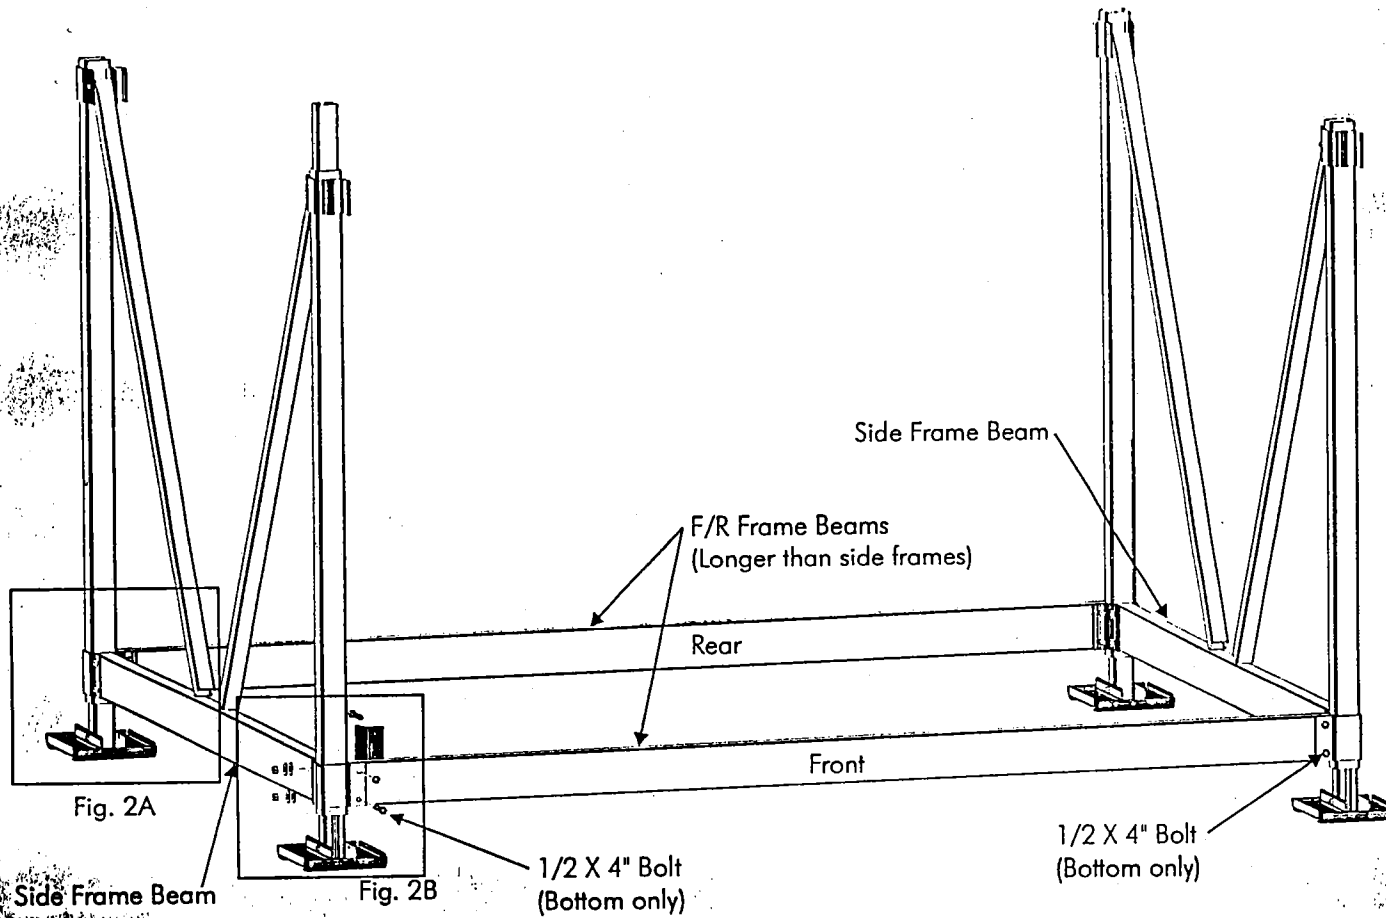

Fig. 2A
- Frames are attached as shown in Fig. 2A and 2B